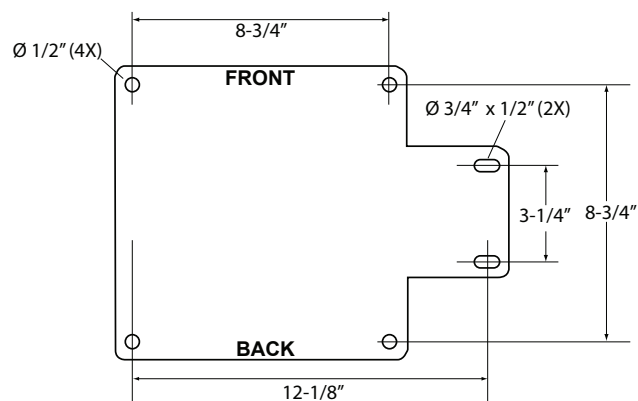

Figure 2. Base plate/support bracket footprint dimensions
- Figure 2 shows the base dimensions and mounting footprint